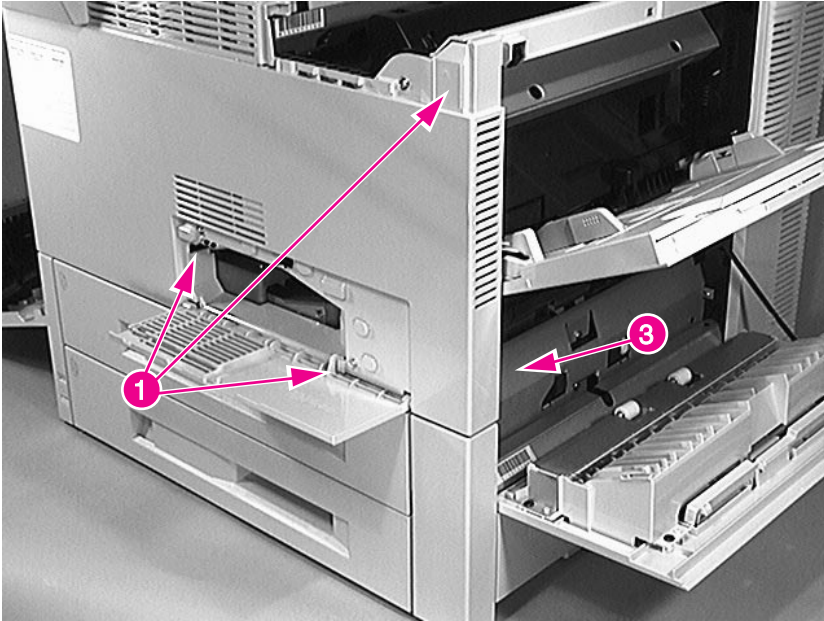

Figure 6-7 Front Cover (1 of 2)
- 2 Open the front access door, and remove 3 screws (figure 6-7, callout 1).
- 4 Carefully pull the bottom of the cover away from the chassis while moving it to the right to release the retaining tab (figure 6-7, callout 3).
- Front Cover (see figure 6-7 on page 168)